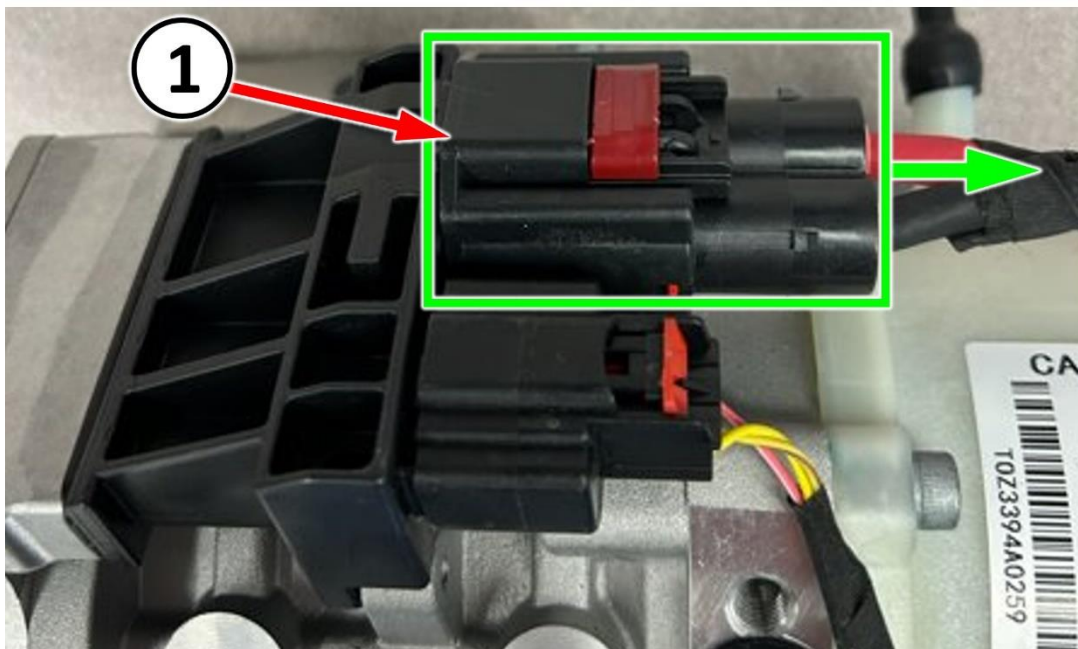

Figure A2 – EHPS Electrical Connector Pull Test
- b. Grasp the EHPS connector ONLY (not the wires) and pull to determine if it is securely connected to the EHPS pump. If connector releases, take photos to attach to repair claim. If connector does not detach, push on connector to ensure it is fully seated (Figure A2).